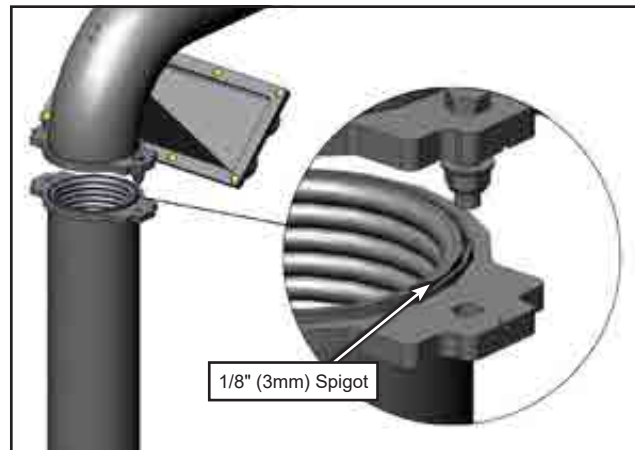

Figure 1.18 - Spigot Location
- d. There is a 1/8" (3 mm) spigot on the vertical pipe that the elbow will lock over top of. Refer to *Figure 1.18*.